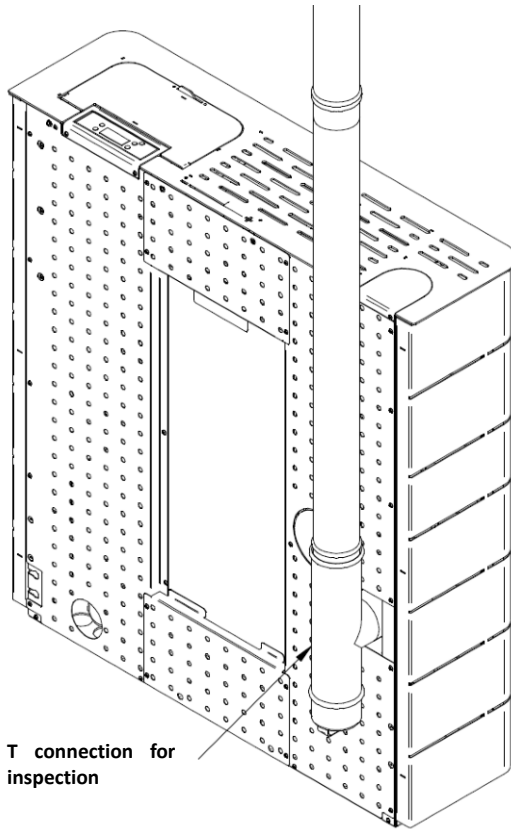

Figure 10 - Installation example for a T connection for inspection
- As shown in Figure 10, the exhaust pipe must be held so that cleaning and maintenance to be provided by the insertion of inspection points.